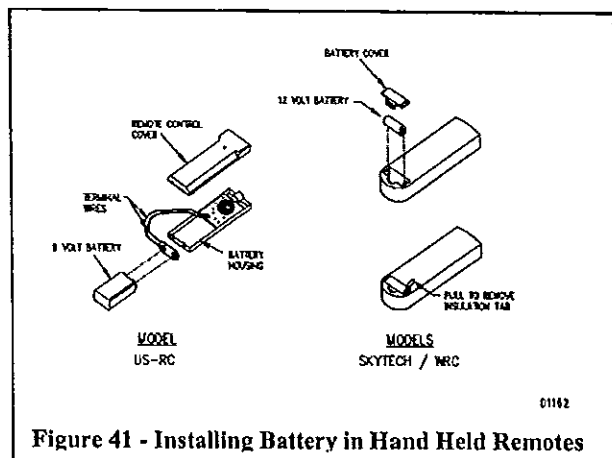

Figure 41 - Installing Battery in Hand Held Remotes
6. Install a 9 volt battery into the US-RC hand held remote by removing the screw on the back and lifting the case open. The SKYTECH model has a 12V battery preinstalled to activate the battery you must remove the insulating tab on the back of the handset (see Figure 41).
5. Activate the handset battery by removing the insulating tab on the back of the handset. See Figure 41, on page 17.